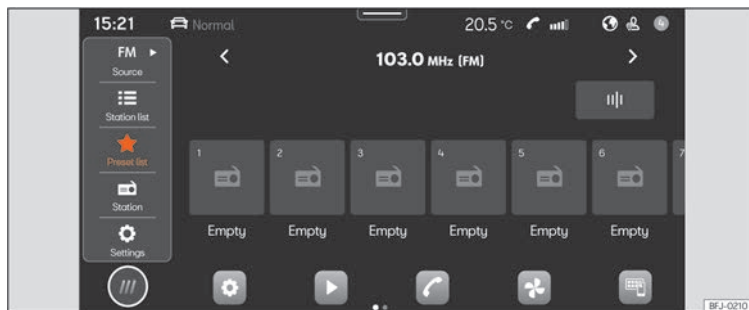

Fig. 155 Schematic representation: Radio view
- Press **HOME** > >>> **Fig. 155**.